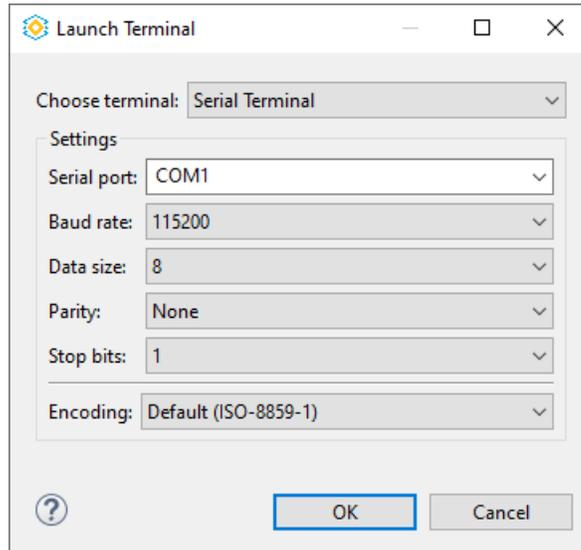

Figure 4.11. Launch Terminal Dialog
3. Choose the **Serial Terminal** and configure the **Serial port** with **Baud rate** 115200 (Figure 4.11).